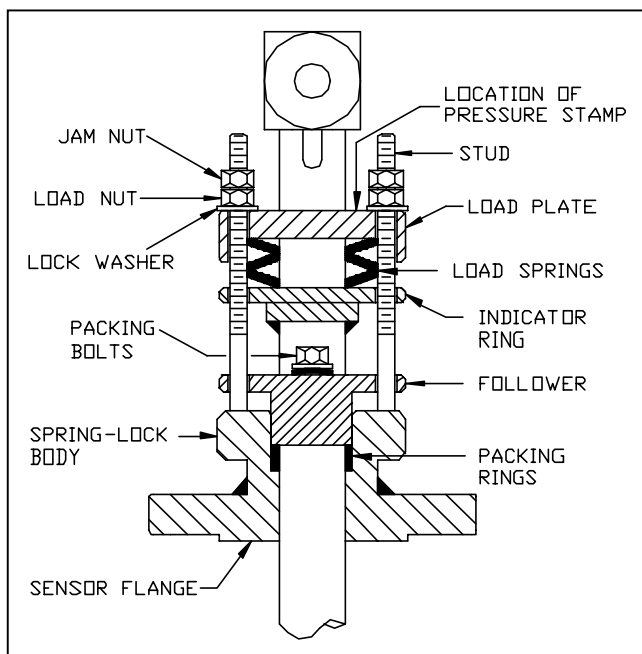

Figure 3. Spring-Lock Cutaway
- With the follower and packing rings already in place (factory assembled), insert the sensor into the Spring-Lock body (Figure 3). Loosely bolt together (hand tight) the sensor, gasket and mounting flange. Insert the assembly until the tip of the sensor hits the opposite side of the pipe. Align the head of the sensor so that the arrow labeled “flow” on the head is in the direction of the flow to within 3°. The contour of the weld coupling should match the contour of the pipe. Check that the bottom of the weld coupling is in contact with the pipe wall.